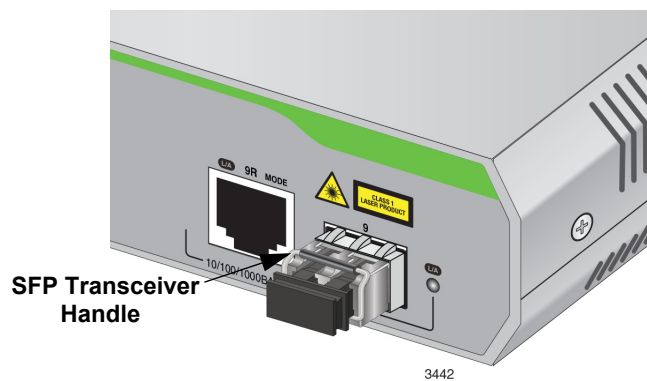

Figure 16. Positioning the SFP Handle in the Upright Position
5. Verify that the handle on the transceiver is in the upright position, as shown in Figure 16. This secures the transceiver and prevents it from being dislodged from the slot.